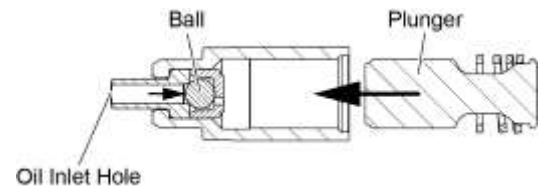

Figure 64
- (1) Clean and lightly coat the lifter parts with engine oil before assembly.
- (2) To assemble the unit, unseat the ball (Figure 64) by inserting a thin clean bronze wire through the oil inlet hole.
- (3) With the ball off its seat, insert the hydraulic tappet plunger and turn it clockwise until the spring engages.